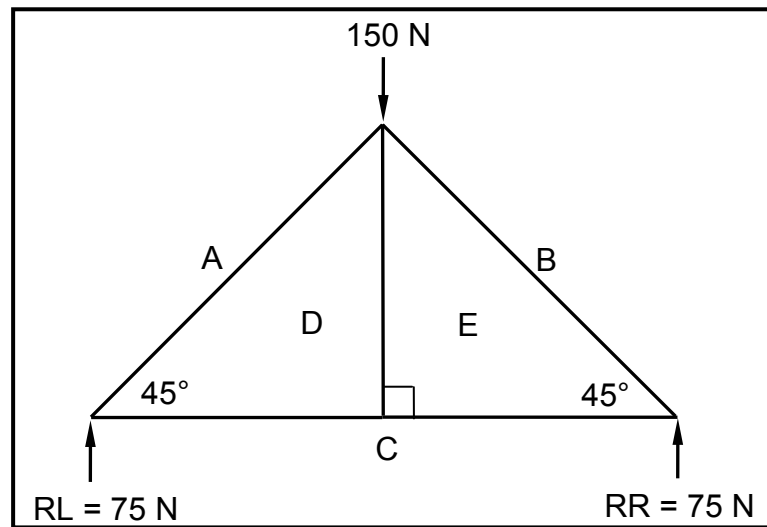

FIGURE 5.4
5.4 FIGURE 5.4 below shows the space diagram of a king-post roof truss with a single point load of 150 N and a span of 10 metres.